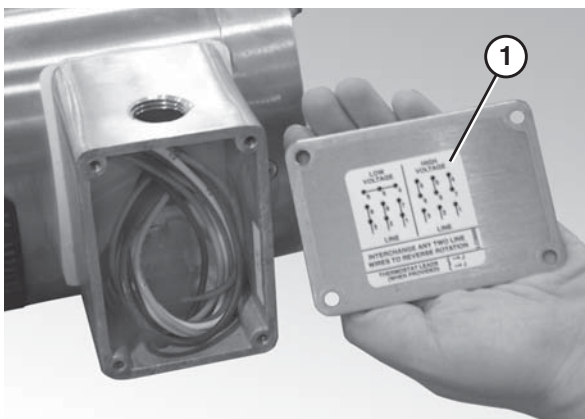

Figure 30
2. Refer to the wiring diagram (Figure 30, item 1) on the inside of the junction box cover.